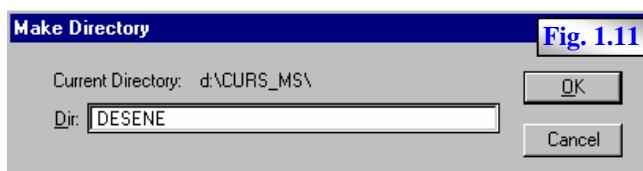

Fig. 1.11
- New** – permite crearea unui nou subdirector subordonat directorului curent, prin fereastra **Make Directory** (fig. 1.11).